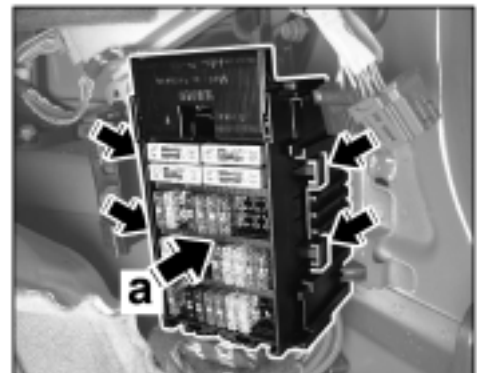

Figure 51
- 5.11 Insert fuse box into the guide on the holder ⇒ *Figure 51 -arrows-* and push it in ⇒ *Figure 51 -arrow a-* until the fuse box engages securely.